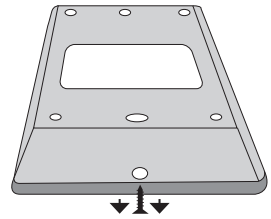

Fig. No. 3
1. Remove the screw located on the bottom side of the enclosure (see Fig. No. 3).
8. Screw up the bottom side of the enclosure. (see Fig. No. 3)